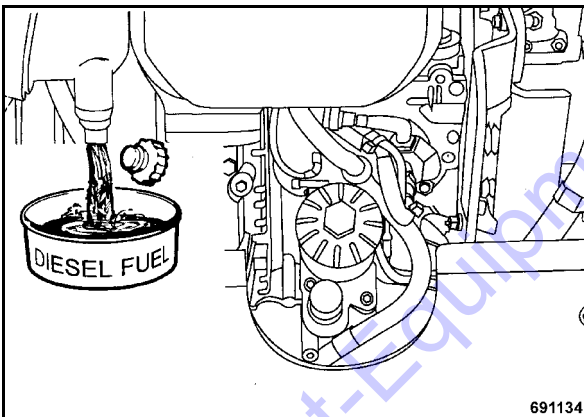

Fig. 52
- Unscrew the drain plug (Fig. 52) underneath the fuel tank, drain off fuel and catch it.